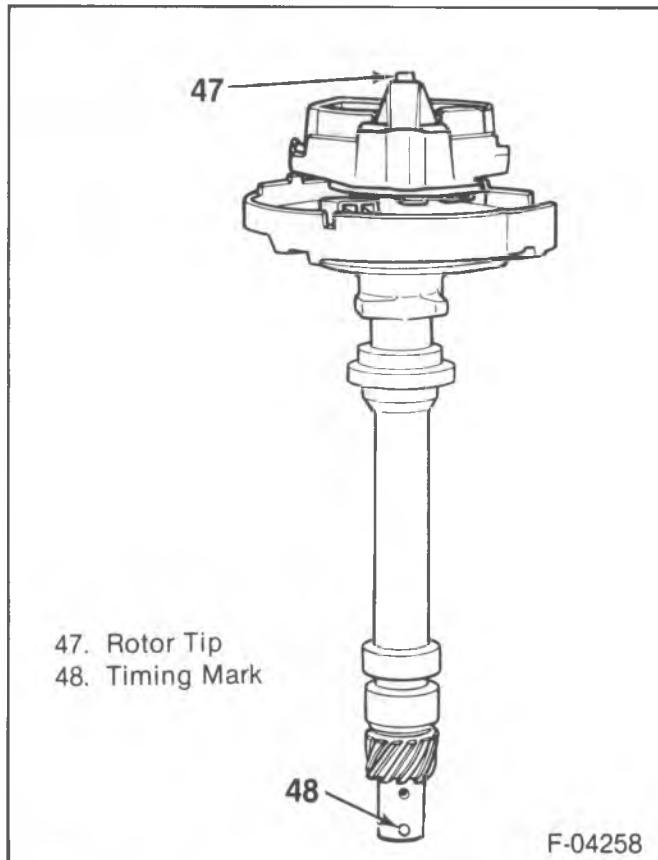

Figure 20—Timing Mark and Rotor Alignment
- Align the timing mark (48) on the driven gear with the rotor tip (47) (figure 20).